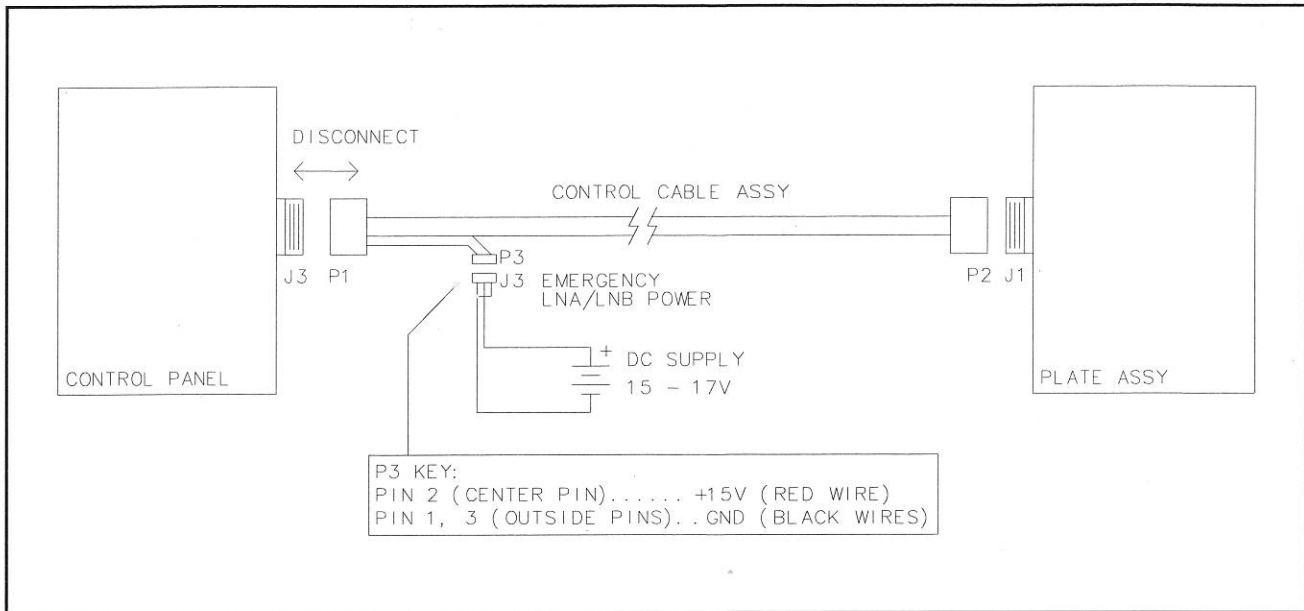

Figure 5-1. Emergency Unit Power
- 1) Locate Emergency Power connector P3 on the plate cable connected to J3 of the controller. Refer to Figure 5-1 and to cable drawing 10899 for details.